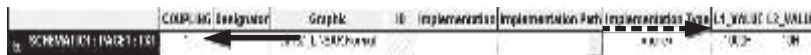

FIGURE 12.44 Properties menu of transformer.
4. For the ideal case, set the Coupling Factor to “1” (solid arrow in Figure 12.44). Then, determine the value of both inductances in the transformer. Given that L_1 is 100 times larger than L_2 , choose L_1 to 1000 H while L_2 to 10 H (dashed arrow in Figure 12.44).